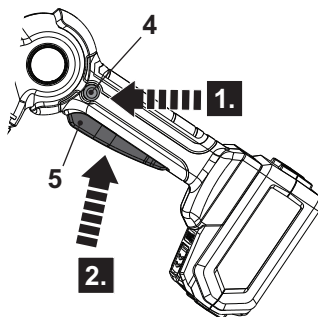

Fig. 9
1. Press the safety lock button (4) and hold in position (Fig. 9, step 1) to unlock the on/off switch (5) (Fig. 9).